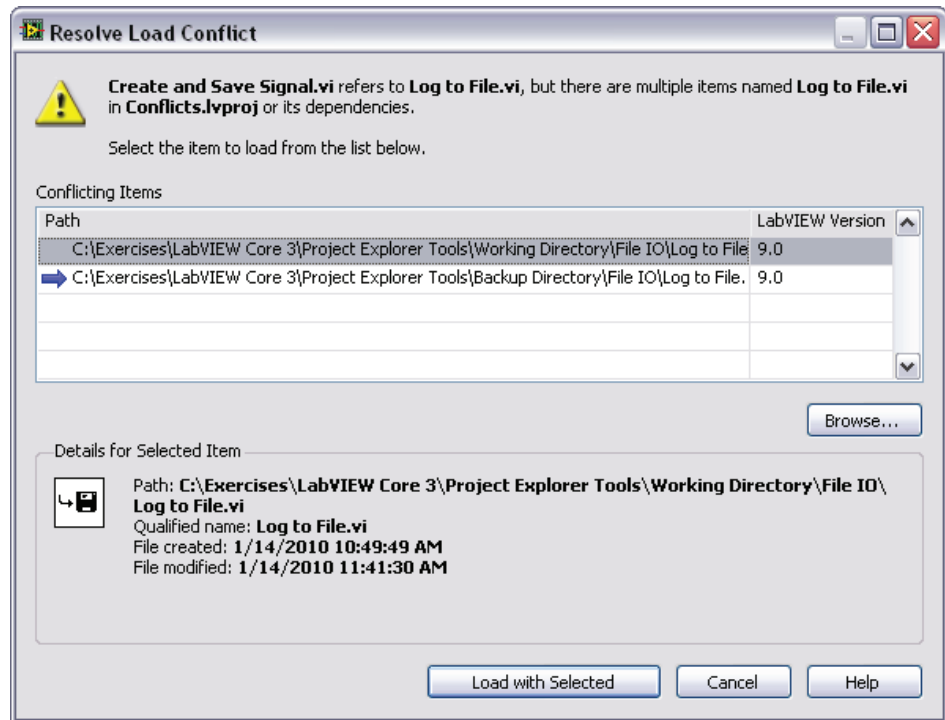

Figure 4-8. Resolve Load Conflict Dialog Box
- ❑ Double-click **Create and Save Signal.vi** in the LabVIEW Project. The **Resolve Load Conflict** dialog box appears as shown in Figure 4-8 and prompts you to select the subVI you want the caller to reference.